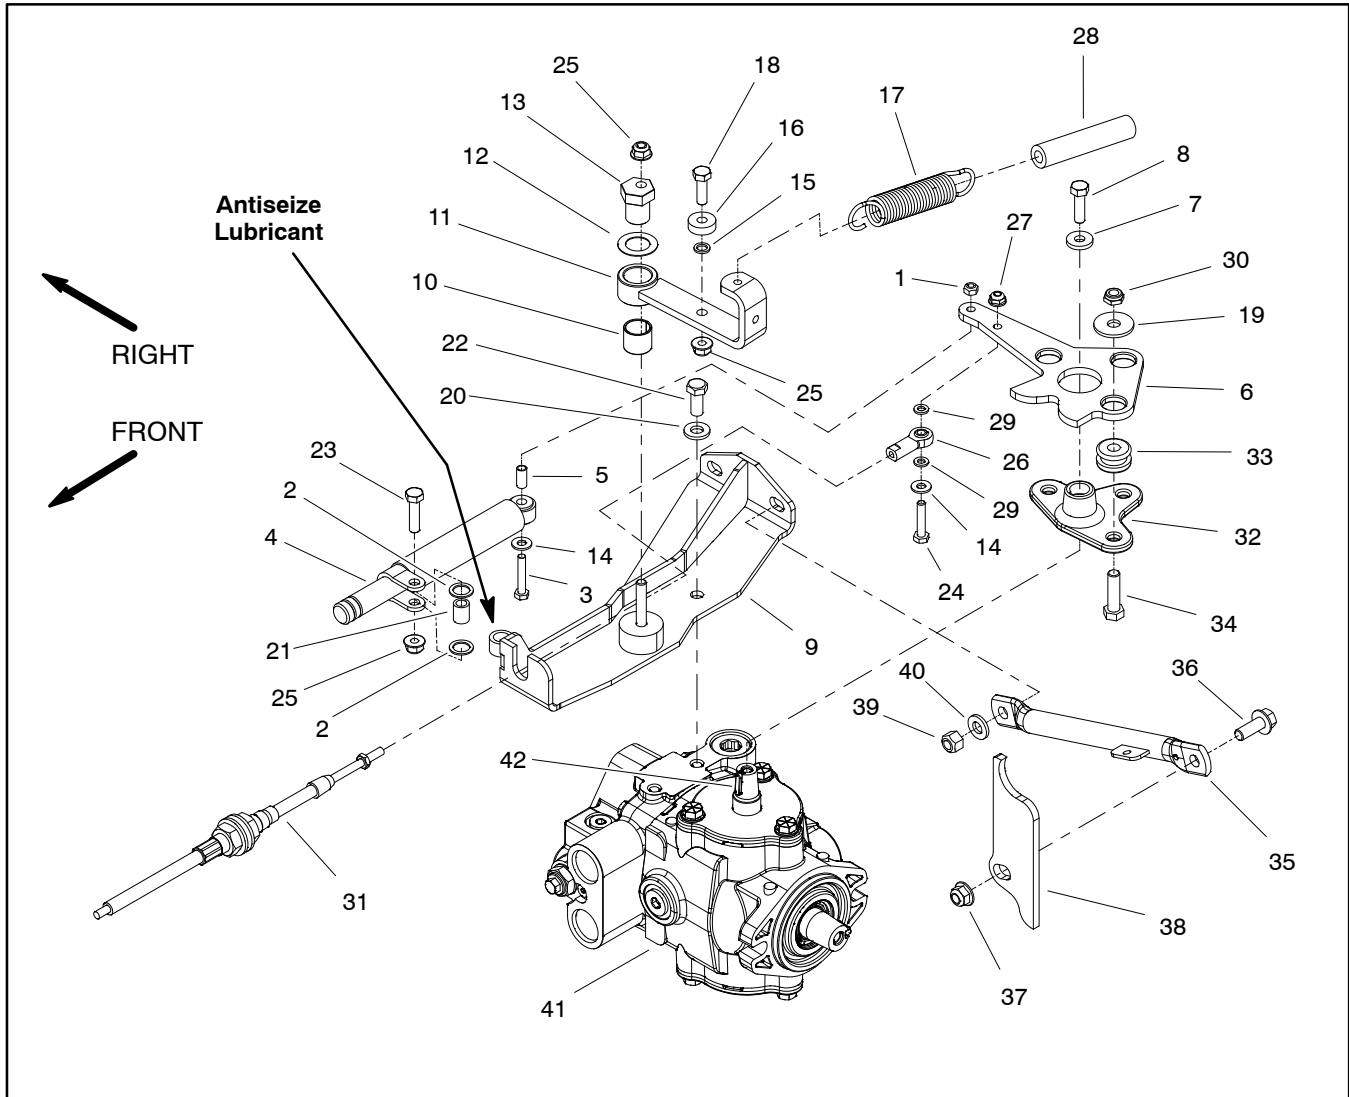

Figure 37
Disassembly (Fig. 37)
3. Remove components from traction neutral assembly as needed using Figure 37 as a guide.
Assembly (Fig. 37)
1. Install removed components to traction neutral assembly using Figure 37 as a guide along with the following: